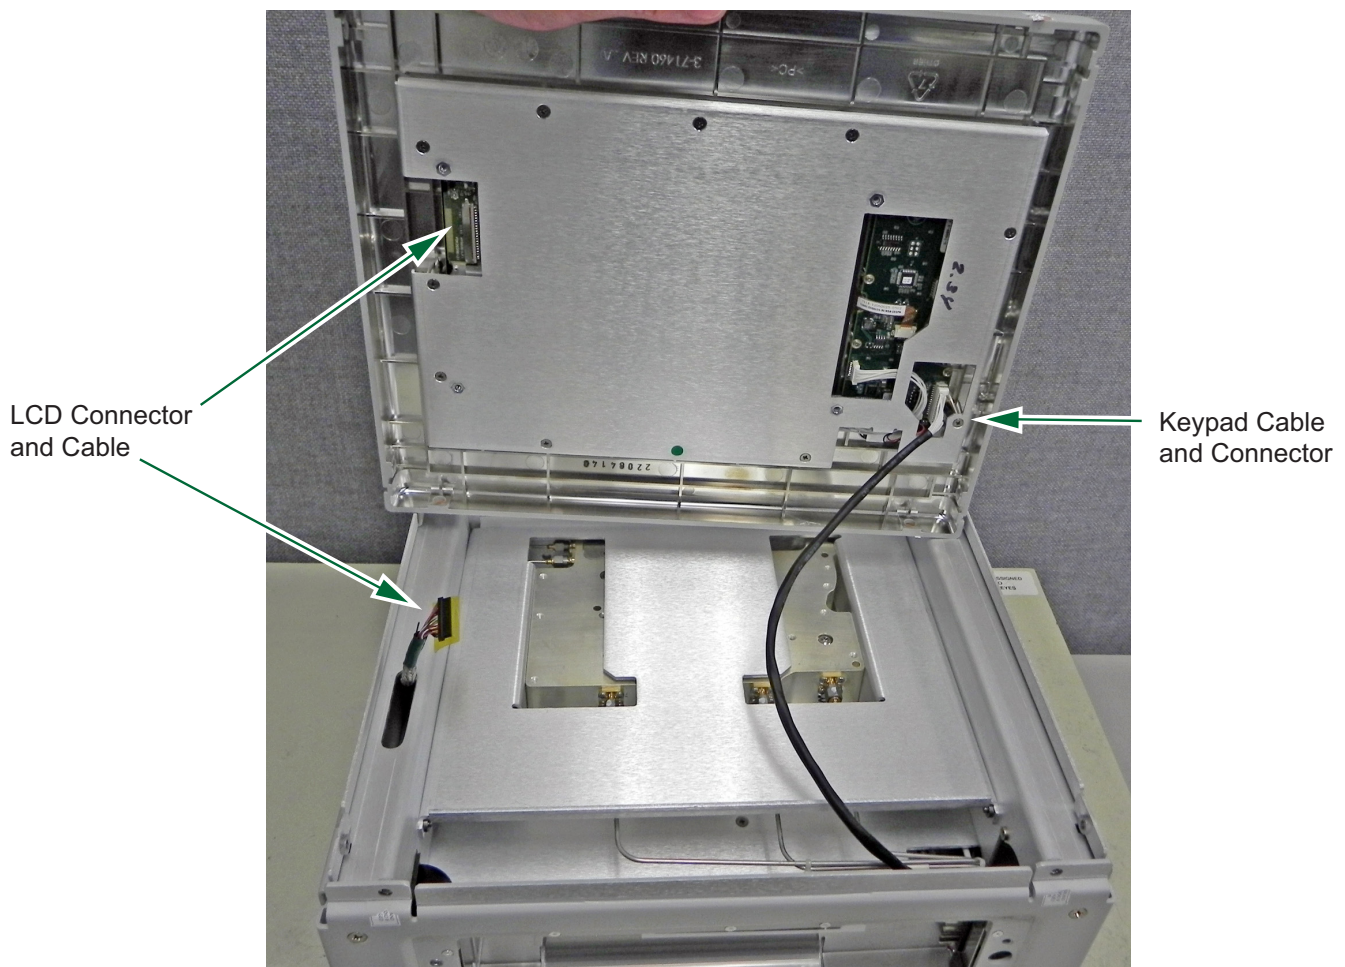

Figure 5-8. Front Panel Cable Connections
8. Continue lifting the Front Panel and remove the longer Keypad Cable on the right side (Figure 5-8).